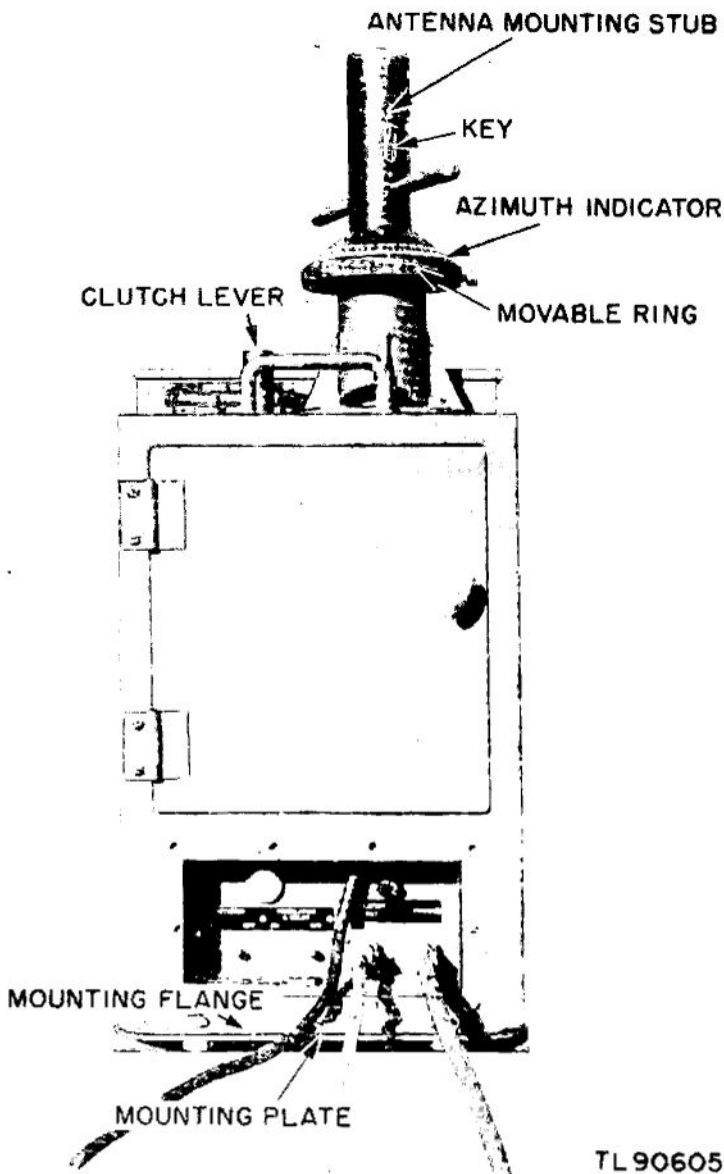
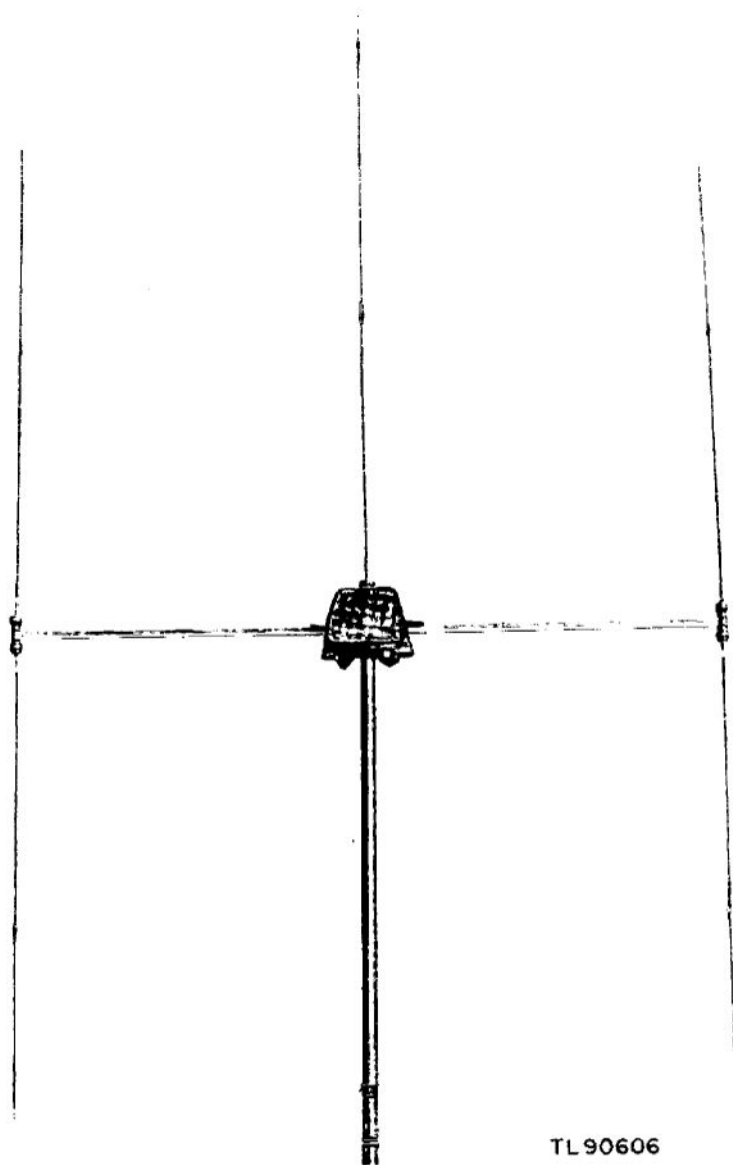

Figure 2. Antenna Mount MP-67
Figure 3. Antenna array, assembled.
a. The antenna mount (fig. 2) is a steel box 12 inches wide, 15 $\frac{3}{4}$ inches deep, and 20 inches high. Flanges on the bottom of the mount are bored for
a. General. The beacon antenna system (fig. 3), consists of an Adcock-type antenna in conjunction with a vertical dipole. Included with the system is the phase-load box containing the necessary phasing circuits.
b. Vertical Dipole. (1) The vertical dipole consists of a hollow Mast MS-119, on top of which is mounted the phase-load box, and a mast consisting of three sections which screws into the top of this box.
(2) Mast MS-119 consists of approximately 6 feet $5\frac{1}{2}$ inches of $2\frac{1}{8}$ -inch hollow tubing, with bakelite insulators at each end and a polarized socket below the bottom insulator. This socket slides over the antenna mounting stub in the antenna mount. Two keys on the outside of the mounting stub (fig. 2), fit into the notches in the polarized mast socket. These keys serve as a rest and are so constructed that the mast can only be inserted correctly into the antenna mounting stub. These keys eliminate strain from the electrical connections between the stub and the mast when the antenna rotates. Within the mast an r-f transmission line terminates at the lower end in solid male type jacks which mate with split female plugs mounted within the stub. At the upper end, the r-f transmitter line connects to the circuits within the phase-load box.
(3) A canvas cover, Cover BG-181, is furnished to protect the lower end of the mast when not in use.
socket on the control panel (fig. 2). The other end of the cord contains 2 battery lugs for connection to a 12-volt storage battery. The lugs are plainly marked; the red lug for connection to the positive pole of the battery, and the black lug for connection to the negative side of the battery.
c. *Cord CD-1155.* (1) The audio cord, Cord CD-1155 (fig. 11), consists of two shielded No. 18 B and S gauge wires covered with a rubber sheath. The cord is terminated on one end by a three-prong connector for connection to the MODULATION OUTPUT control socket (fig. 2) on the panel and the other